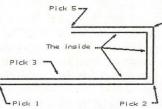

Figure 2
(button 1). Move the cursor to the right about 20 feet and pick to define the length. Now move the cursor up above your wall line and pick again for the inside of your wall. The wall will appear, as in figure 2.
5. Move your cursor up vertically about 20 feet. Pick for the second wall length. The wall will be drawn, with the inside of the wall automatically created on the left side, or what would be the "inside" of your exterior walls, as in figure 2.